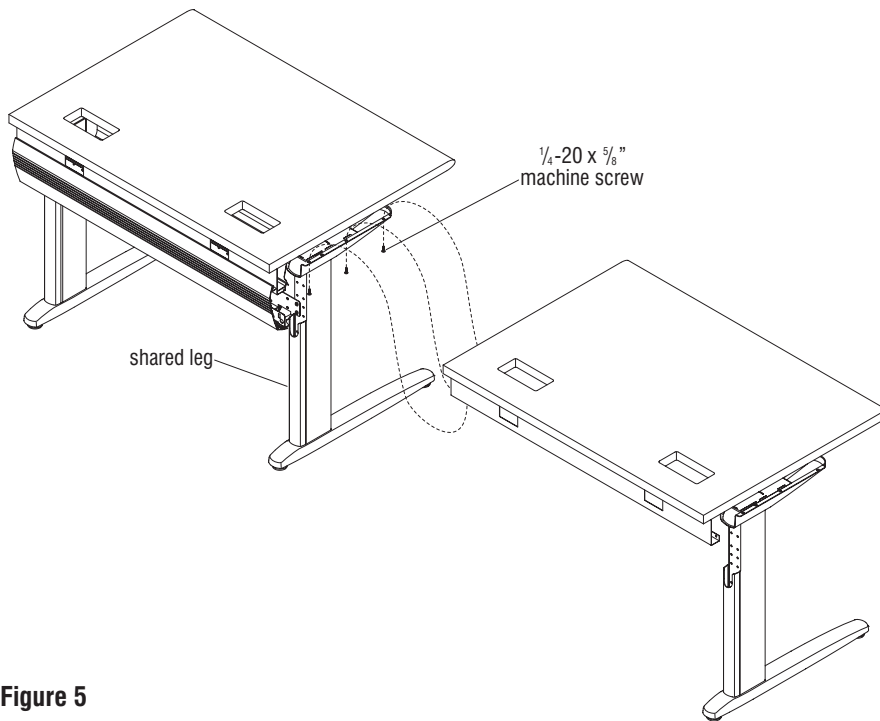

Figure 5
6. Carefully flip over table and orient the open end onto the existing shared leg. Attach leg in proper position with 1/4-20 x 5/8" machine screws into the steel inserts (Figure 5).